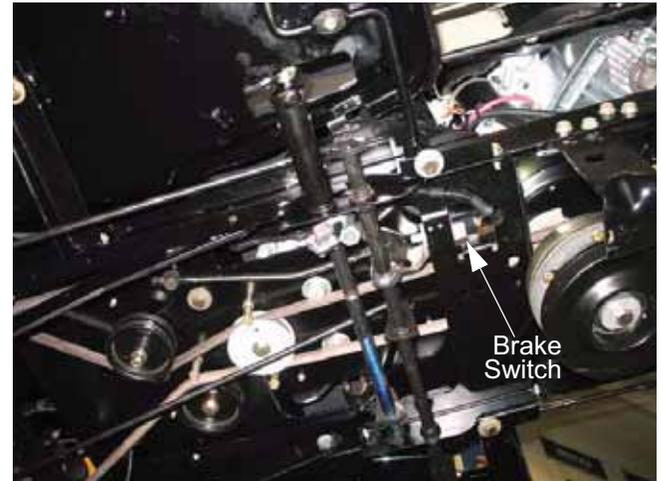

Figure 7.8
**NOTE:** There are three contacts on the right side in the C-COM. For this application the normally opened (NO) contact is used.
4. The **Brake Switch** is mounted to the inside of the frame on the right side. See Figure 7.8.